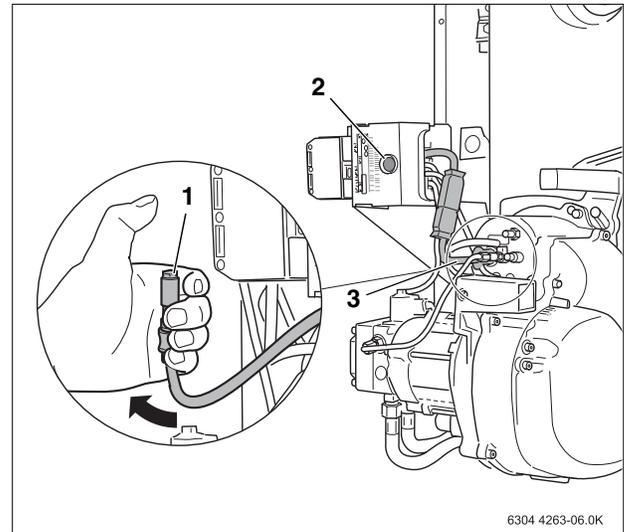

Fig 33 Checking the flame sensor
- With burner in operation, remove flame sensor by pulling on the handle at its end (Fig. 33, **Item. 3**).
- Expose flame sensor to light (Fig. 33, **Item. 1**). The burner must go into lock-out mode.
- Wait for 30 seconds until the primary burner controller went into lockout. Then press the burner reset button, and restart the burner (Fig. 33, **Item. 2**).